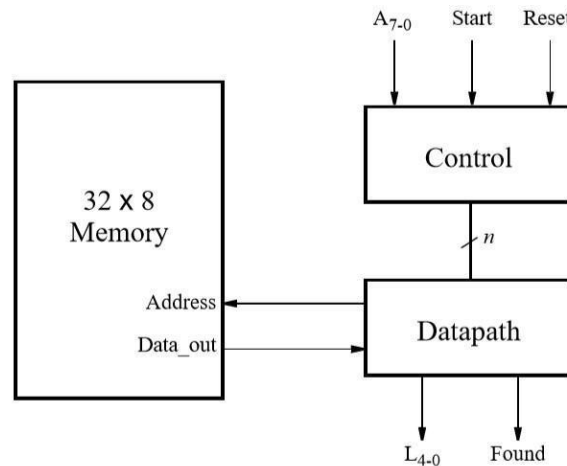

Figure 2. A block diagram for a circuit that performs a binary search.
We wish to implement a binary search algorithm, which searches through an array to locate an 8-bit value *A* specified via switches SW7–0. A block diagram for the circuit is shown in Figure 2.
3. Connect your FSM and datapath to the memory block as indicated in Figure 2.